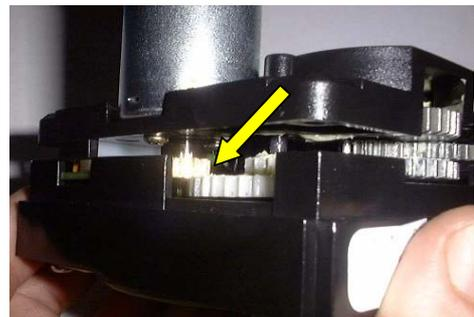

Figure 9:
- v. When fitting the rear cover ensure that the motor drive gear fully meshes with the plastic gear (see Figure 9).